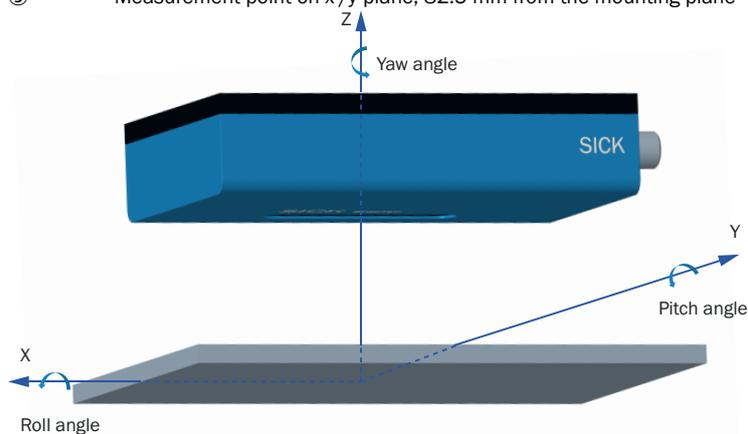

Figure 8: Permissible deviations from nominal alignment
**6.8 Length measurement using a trigger sensor (Fig. 8)**
- Mount the trigger sensor at a suitable location. Observe the mounting instructions of the external sensor as well as the description on length measurements using a trigger sensor Length measurement using a trigger sensor \(Fig. 8\) when doing so.